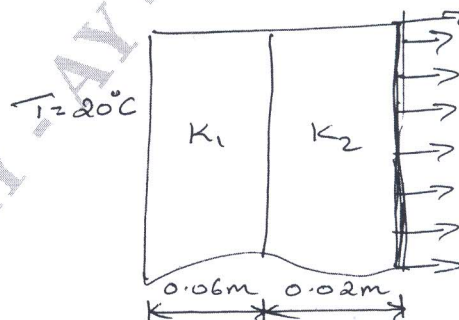

Fig.Q7(b)
b. Determine the temperature distribution through the composite wall subjected to convection heat loss on the right side surface with convection heat transfer co-efficient shown in Fig.Q7(b), the ambient temperature is  $-5^\circ\text{C}$ .